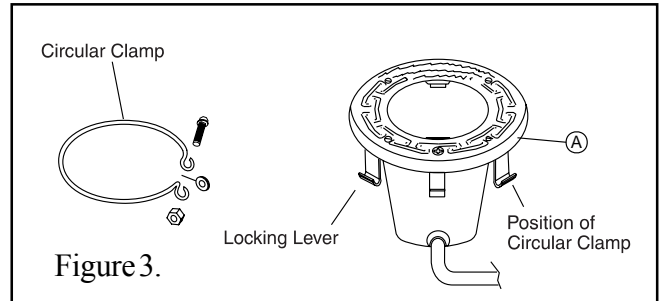

Figure 3.
2. With the bent ends of the circular uni-tension clamp pointing down spread the clamp and place it in the "U" recesses of the locking levers. Be sure the bent ends of the clamp are located between the pair of locking levers as shown in Figure 3, location A. Check to see that the clamp is properly engaged with all of the levers.